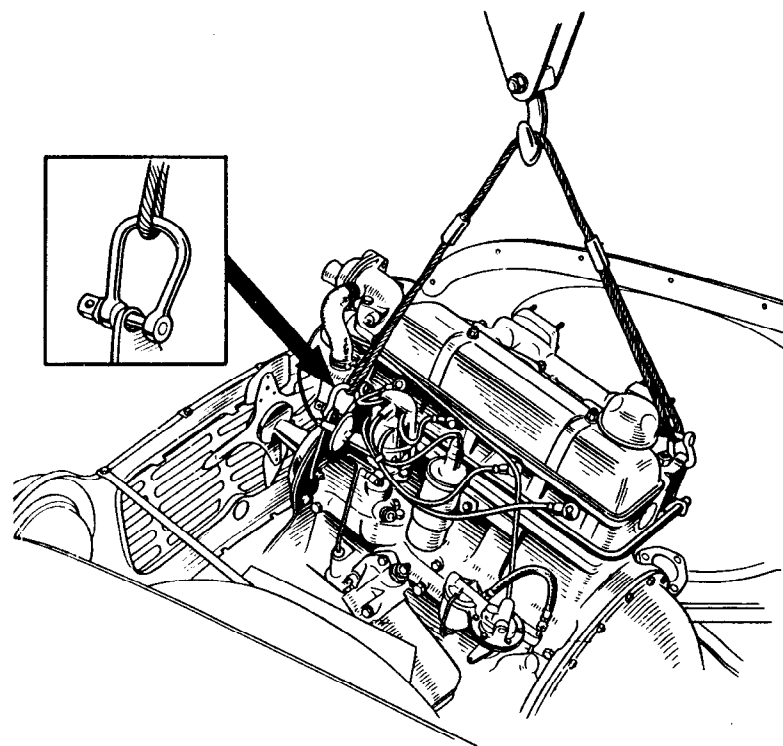

Fig. 10. Removing the TR engine from the TR4 with the aid of a sling
8. Attach lifting gear in a way such that the engine will lift at the front at an angle of 35° – 40° , see Fig. 10.